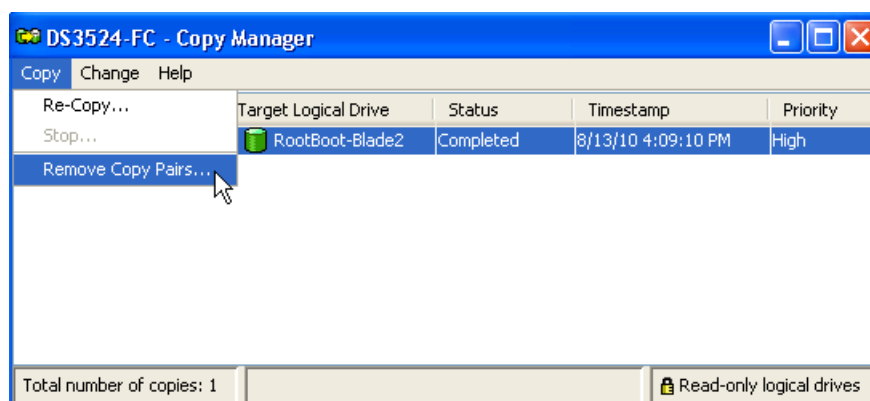

Figure 3-23 Copy Manager: Remove Copy Pairs menu
3. Select **Copy** → **Remove Copy Pairs**. (Or, right-click and select **Remove Copy Pairs** from the pop-up menu. See Figure 3-23.